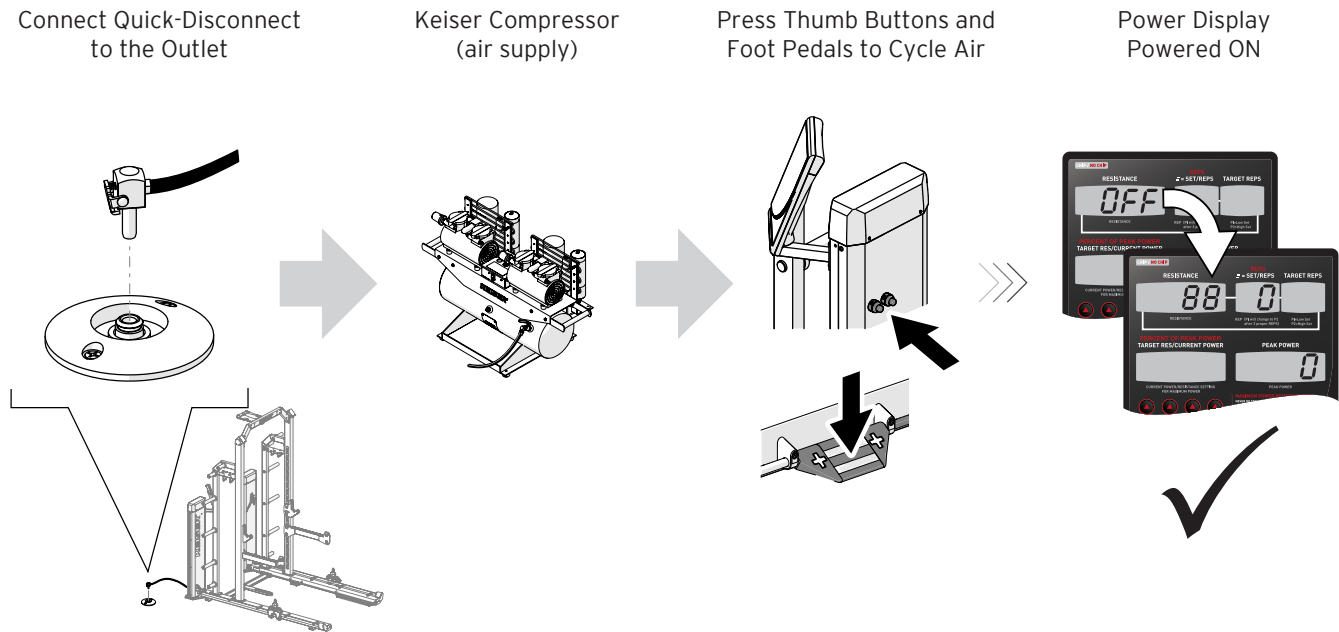

Figure 6. Air System Setup Reference
1. Connect the Quick Disconnect of the Half Rack to the Outlet (see Figure 6).